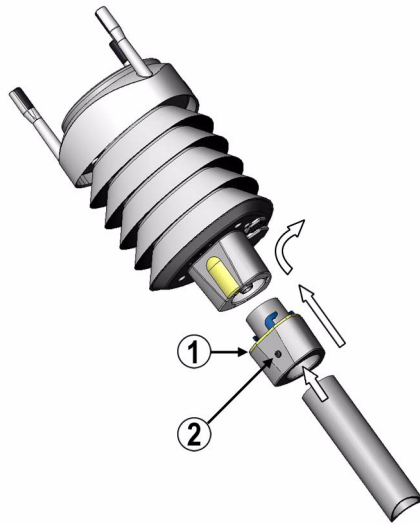
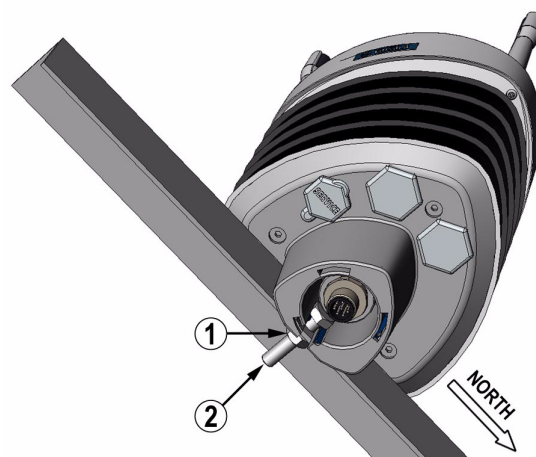

Figure 9 Mounting the WXT510 to a Pole Mast Using the Optional Mounting Kit
Figure 10 Mounting the WXT510 to a Cross Arm (L-Profile)
The following numbers refer to Figure 9 on page 28:
3. Mount the transmitter into the cross arm by using the fixing screw (M6 DIN933) and a nut, see Figure 9 on page 28 and Figure 10 on page 29.
The following numbers refer to Figure 10 on page 29: